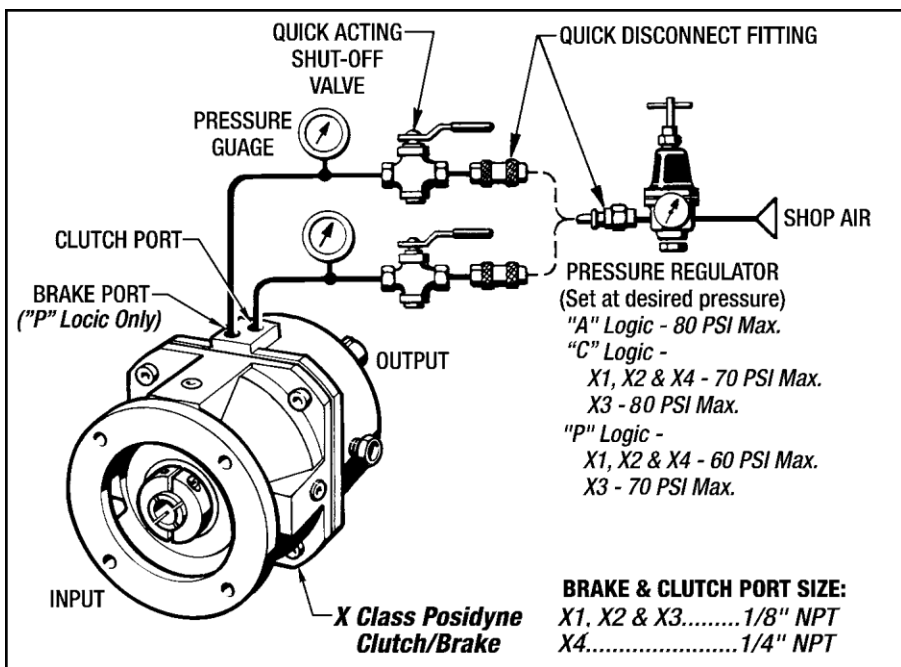

Figure 5.1 - Pneumatic Testing Set-Up
These Operational Checks are to be made when the Drive Unit is removed from service for repair. Provisions for manually controlled 60 or 70 PSI for "P" Logic and 80 PSI air pressure max. for "A" Logic must be made for these Operational Checks. (See Figure 5.1 below.)
Assemble a Pneumatic Testing Set-Up similar to the one shown in Figure 5.1
2. Crack the Shut-off Valve until the air pressure reads the correct air pressure. See Figure 5.1 below for correct air pressure.